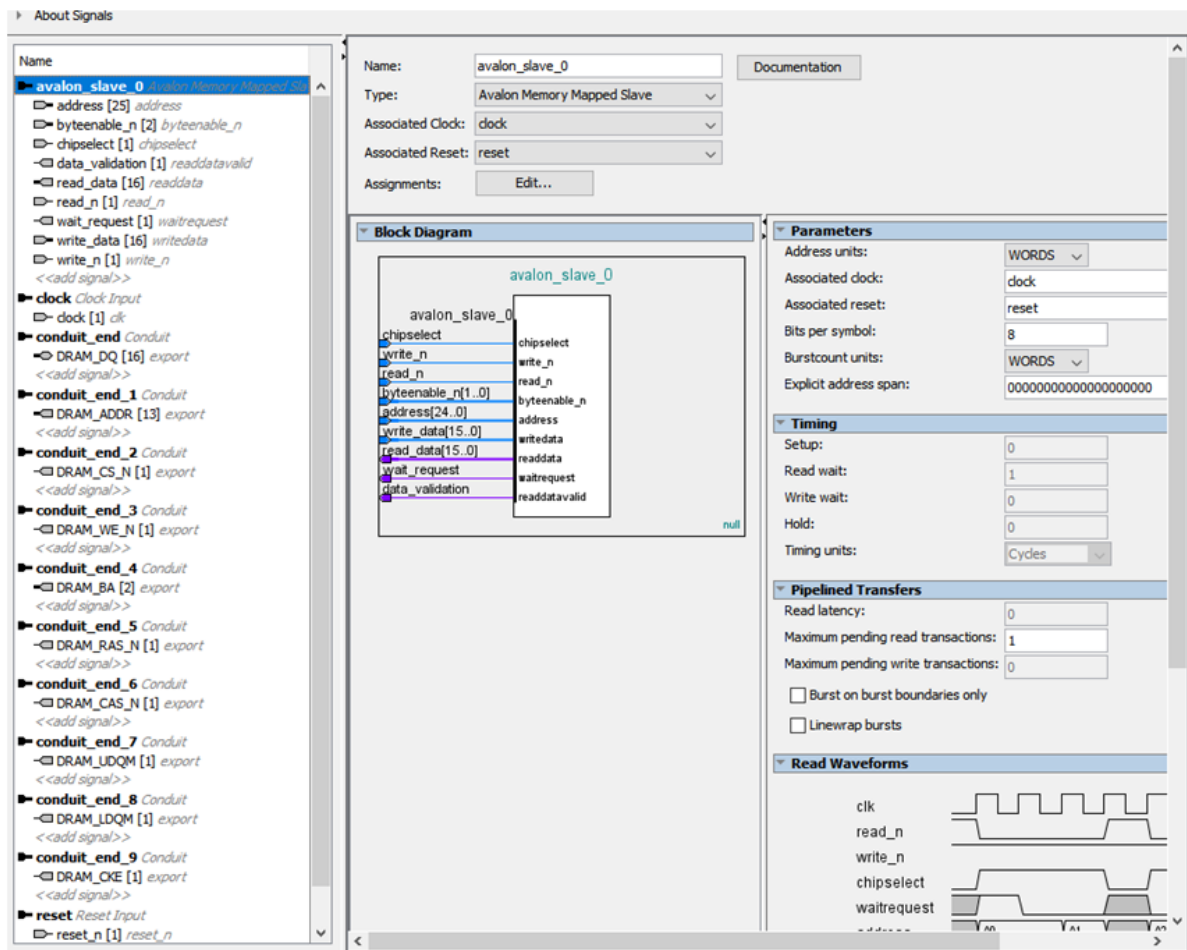

Figure 6: Creating Conduit Interfaces
- (a) Create 10 Conduit interfaces by clicking “<<add interface>>”, which is at the bottom of the “Name” panel of the Component Editor window, and move the 10 signals whose names start with “DRAM\_” (if you followed the naming schemes of `SDRAM_Controller.v`) from the “Avalon\_slave\_0” category to the 10 conduits (Figure 6).